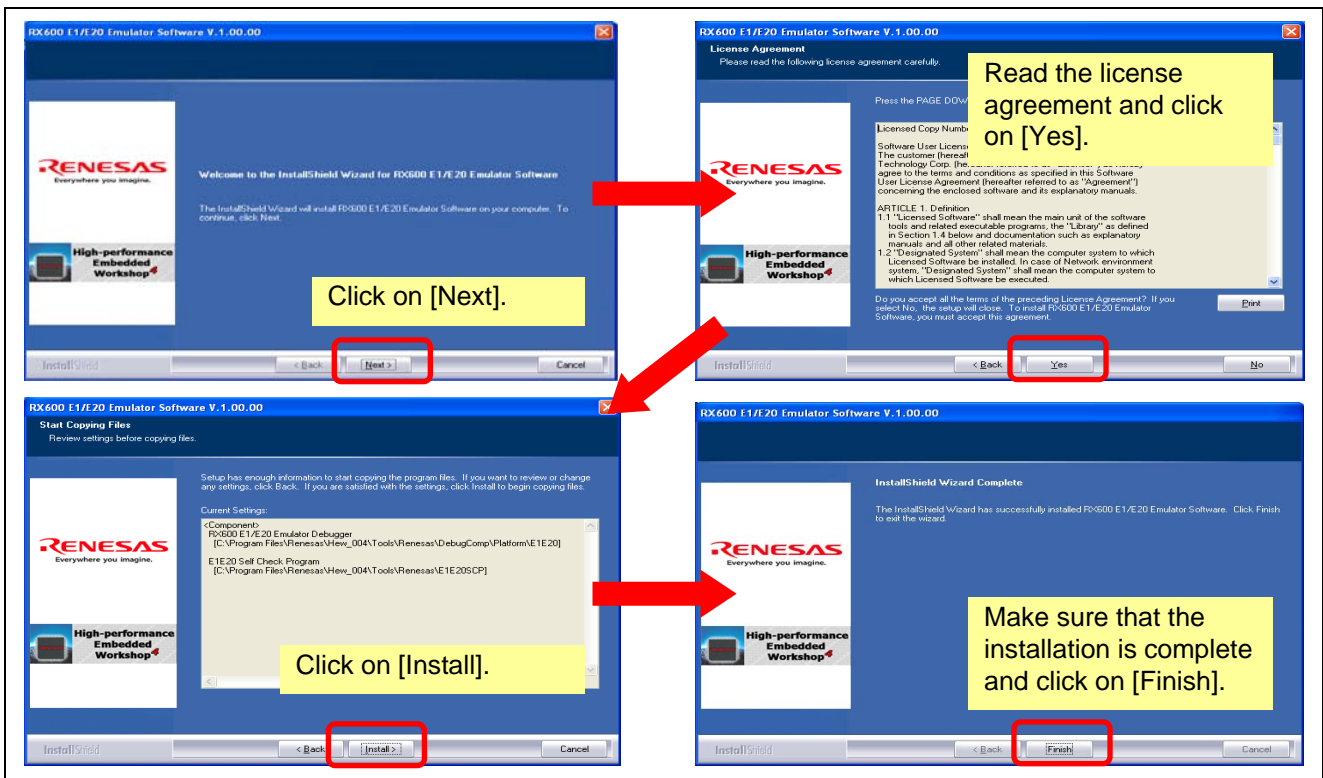

Figure 3.6 Installing the E1/E20 Emulator Software
(7) Installation of the E1/E20 emulator software starts. Follow the procedure shown in Figure 3.6.